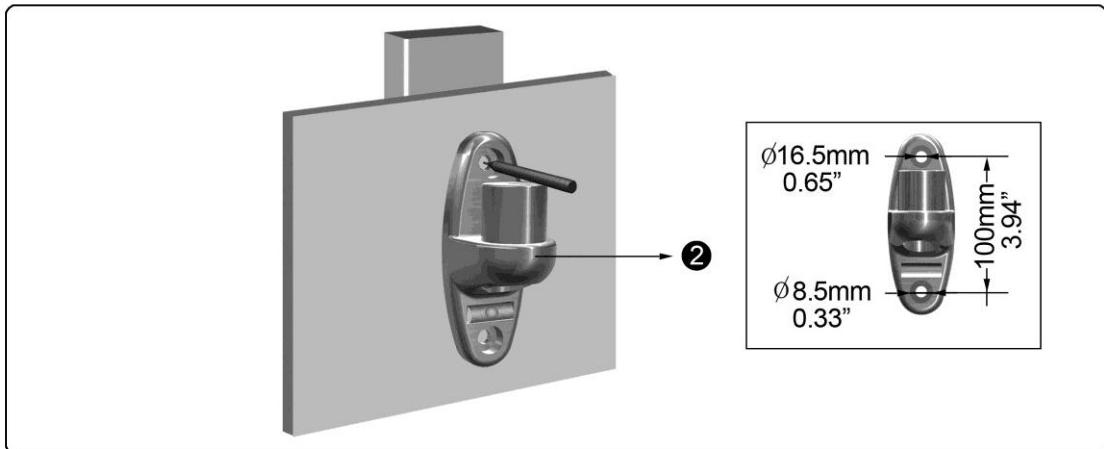

Figure 1-2
2. Place the Wall Plate (2) on the wall. Mark location with pencil (See Figure 1-2).